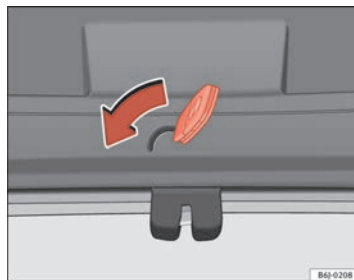

Fig. 48 Tailgate: emergency open
- Insert the key in the groove and unlock the locking system, turning the key from right to left, as shown by the arrow ⇒ fig. 48. ■